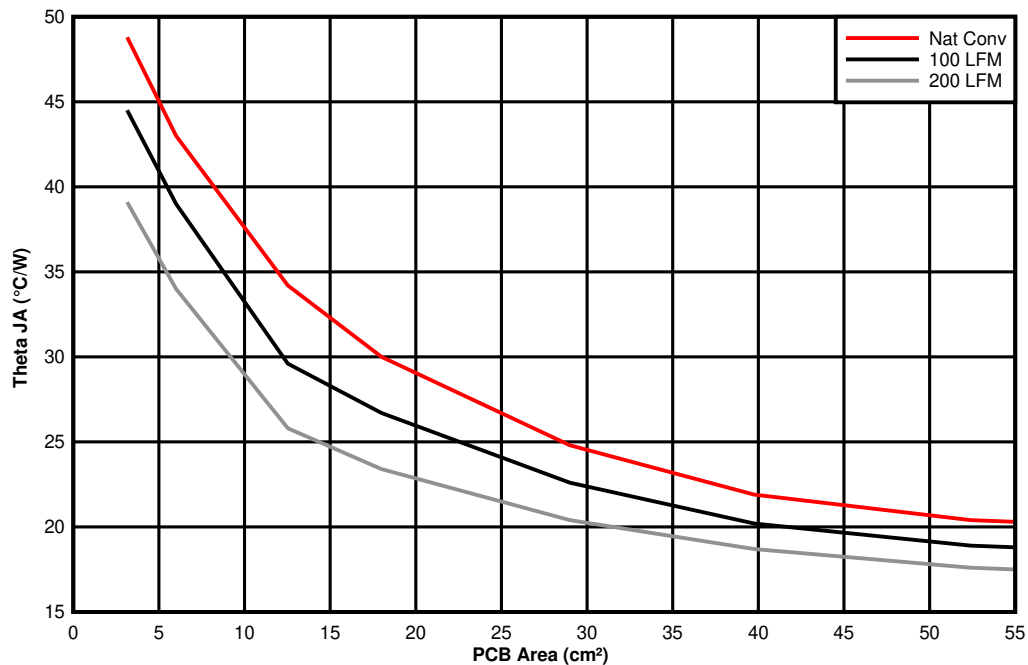

图 10-5. θ_{JA} vs PCB Area
The amount of PCB copper as well as airflow effects the thermal performance of the device. Figure 10-5 shows the effects of copper area and airflow on the junction-to-ambient thermal resistance ($R_{\theta JA}$) of the TPSM560R6. The junction-to-ambient thermal resistance versus PCB area is plotted for a 4-layer PCB.
3. Reference Figure 10-5 to determine the minimum required PCB area for the application conditions.